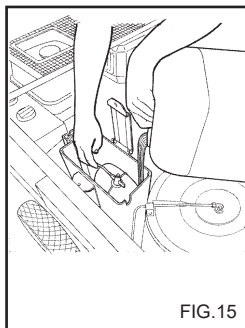

FIG. 15
This chapter concerns only those models provided with the "pressure regulating" device. The pressure regulator, fig. 15, allows the operator to adjust the working pressure. When knob C is turned in an anti-clockwise direction (B) (minimum), the working pressure is reduced.
- 5) Pour about 3 litres of antifreeze into the water tank (fig. 15).